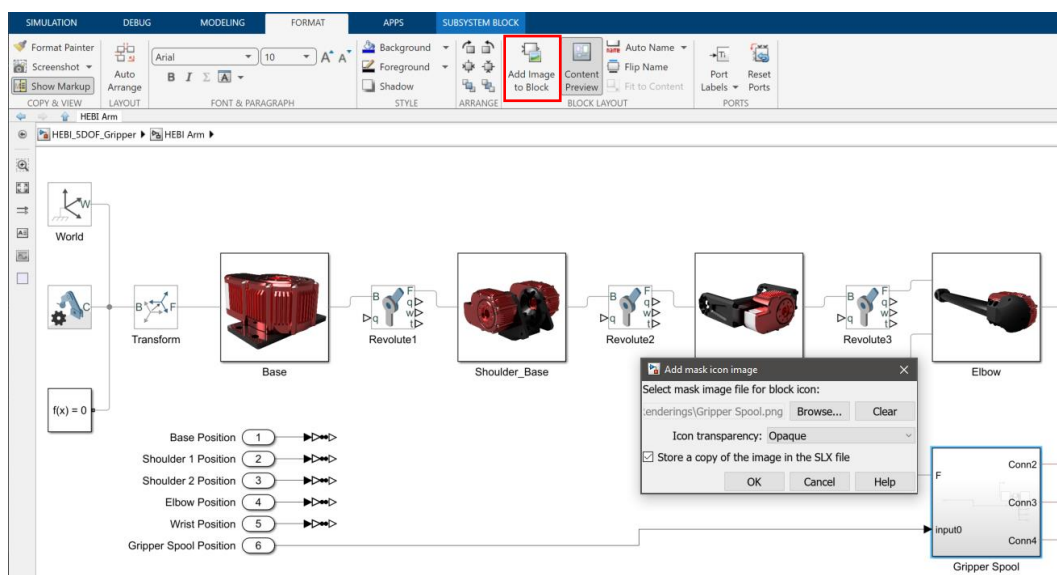

Figure 12: Adding Image to Gripper Spool Subsystem Block
19. Once the “Add mask icon image” dialog box pops up, browse and select the “Gripper Spool.png” that is within the “HEBI_5DOF_Gripper” folder you have downloaded from Canvas. Check the “Store a copy of the image in the SLX File” box and click ok, as shown in figure 12.